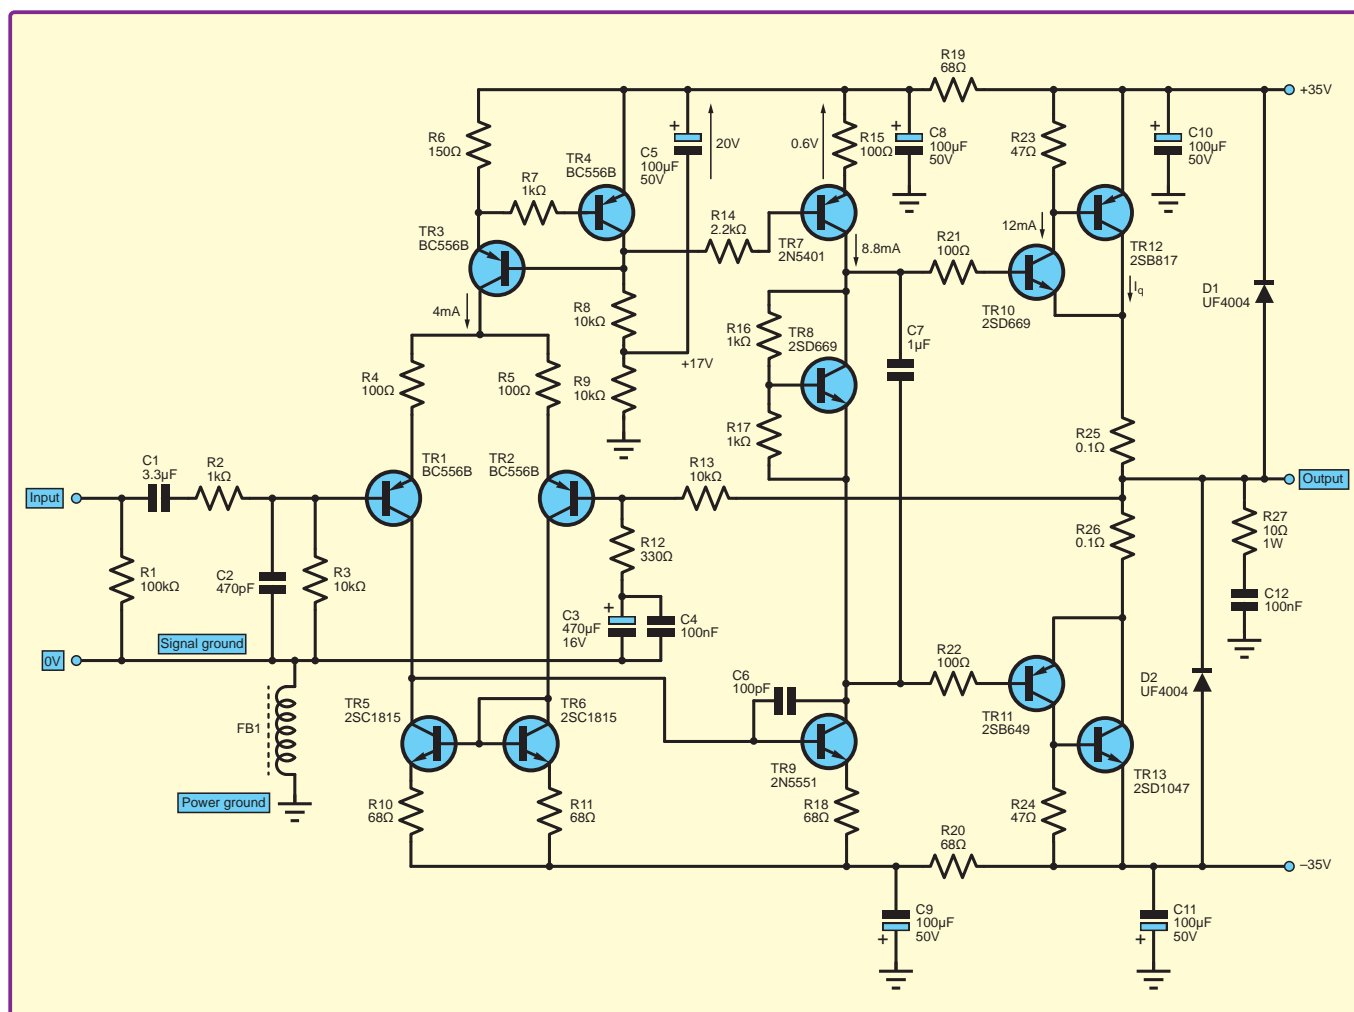

Fig.2. The MX50 circuit – another Douglas Self inspired design.
The circuit is clearly based on Douglas Self's Blameless 50W amplifier design, described in his *Audio Power Amplifier Design Handbook*, a distillation of years of research into the distortion mechanisms of the standard Lin circuit. Just like Baxandall and his tone control design, Self would have become rich if all amplifier manufacturers using his circuitry had paid him a small royalty. There are a few simplifications to his design (see the MX50 circuit in Fig.2) possibly to avoid copyright infringement. The main change being the omission of a buffer stage between the long-tailed pair (LTS) input stage and the voltage amplifier stage (VAS). This will make the distortion a bit higher. This is likely to be audibly insignificant because input stage distortion is subjectively much more benign than output stage distortion. Instead of an emitter-follower (EF) output stage, a complementary follower pair (CFP) stage is used. This configuration has slightly lower measured THD, but the distortion residue usually exhibits sharper spikes than the EF version, which may be more dissonant. The CFP stage does make the kit easier to build, because the temperature sensing  $V_{be}$  multiplier bias transistor can be mounted on the driver transistor heatsink, rather than on the main output transistors.